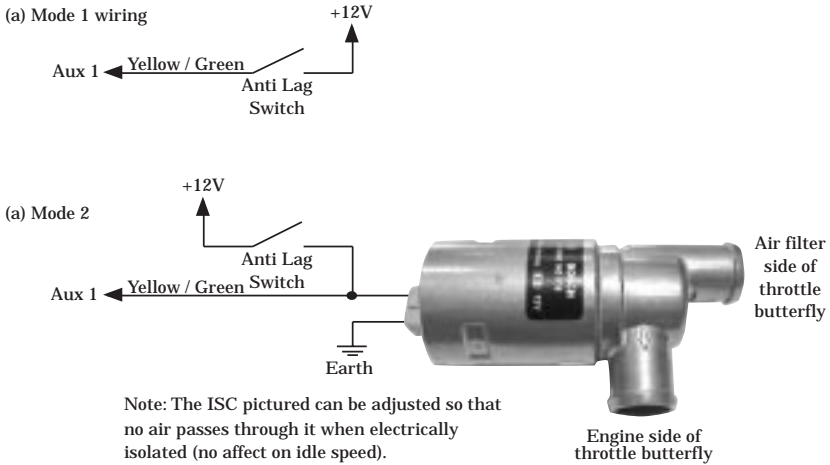

Fig 11.6
It can be configured to bypass air directly past the butterfly into the engine or, the solenoid when energised can be used to hold the throttle butterfly slightly open. Refer the Figure 11.6 for wiring information.
**Mode 2:** Check the air bypass solenoid(s) have been wired as shown in Figure 11.6. This will ensure that air is only bleed into the engine when Anti-lag is switched ON.
Press the EDIT DOWN button once to display the Anti-lag Mode. Use to ADJUST keys as required and the display will show Mode 1 or Mode 2 accordingly. (Any changes are automatically stored). Ensure the system has been wired to the correct Mode as shown in Figure 11.6.